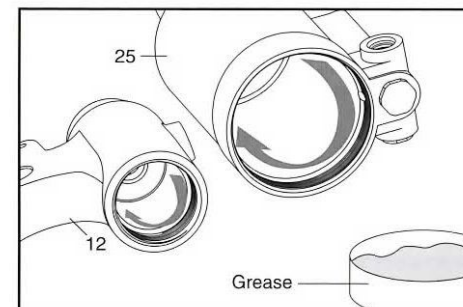
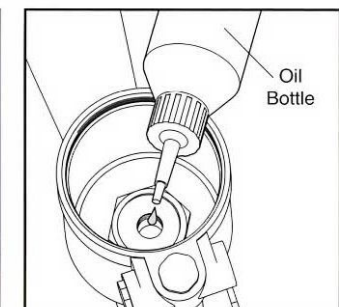

Fig.8
Fig.9
3. Check and replace the worn Buffer Ring (47), Air Piston Ring (48) and Air Cylinder End Cap O-Ring (52). Also check and replace the worn Air Piston Rod (49) and the damaged Air Piston (50). Finally, check the Air Piston Lock Nut (51) and lock it firmly.
4. Use the Wrench 27-12 (58) to unscrew the Head (2), only separate the Rear Jaw Case (7) from the Lock Nut (9) and Lock Washer (8) by the Wrench 22 (57) and Wrench 27-12 (58).
5. Carefully dismantle the Oil Cylinder End Cap (22), remove the Hanging Bracket (21) and Hanging Bracket O-Ring (20), and then take out the Large & Small Return Springs (18 & 19), and then press the threaded end of Oil Piston (15) to take out the Oil Piston Assembly (15AY). **Pay special attention to dismantle the Oil Cylinder End Cap (22), not to let the strong force of Large & Small Return Springs (18 & 19) jump out to hurt people. Be careful not to scratch the rod of Oil Piston (15) and the inner wall of Oil Cylinder (12).** Check and replace the weak or broken Large & Small Return Springs (18 & 19).
6. Firstly use a long stem socket 35 mm to unscrew the Oil Cylinder Lock Nut (29), use a suitable diameter pin carefully to punch out the Lever Pin (35), and then carefully use a hex wrench 3 mm to unscrew the Lock Screw (26), finally separate the Oil Cylinder (12) from the Air Cylinder (25).
7. **Check and replace the worn Oil Cylinder O-Rings (10), Oil Cylinder Back-Up Rings (11), Oil Piston O-Ring (16), and Oil Piston Back-Up Ring (17). Also check and replace the worn Oil Piston (15).**
8. Grease the inner walls of Oil Cylinder (12) and Air Cylinder (25) (Fig.8), also grease the Oil Piston O-Ring (16) and Air Piston Ring (48). Reverse above steps to reassemble the Oil Cylinder (12) and Air Cylinder (25) together by aligning and using a hex wrench 3 mm to fasten the Lock Screw (26), and then fasten the Oil Cylinder Lock Nut (29) by a long stem socket 35 mm. Finally reassemble the Trigger Lever (32) back to the Air Cylinder (25) by punching the Lever Pin (35) into the original pin holes carefully.
9. Reassemble the Oil Piston Assembly (15AY), Large & Small Return Springs (18 & 19), Oil Cylinder End Cap (22) along with Hanging Bracket (21) and Hanging Bracket O-Ring (20), and the Spent Mandrel Container (24).
10. **Put the tool upside-down, use the oil bottle to refill new hydraulic oil into the Oil Cylinder (12) through the Air Cylinder (25) until oil is flush with the upper Oil Cylinder O-Ring (10). (Fig.9) Make sure not to overflow oil, and rest for a while until the oil stops releasing air bubbles.**